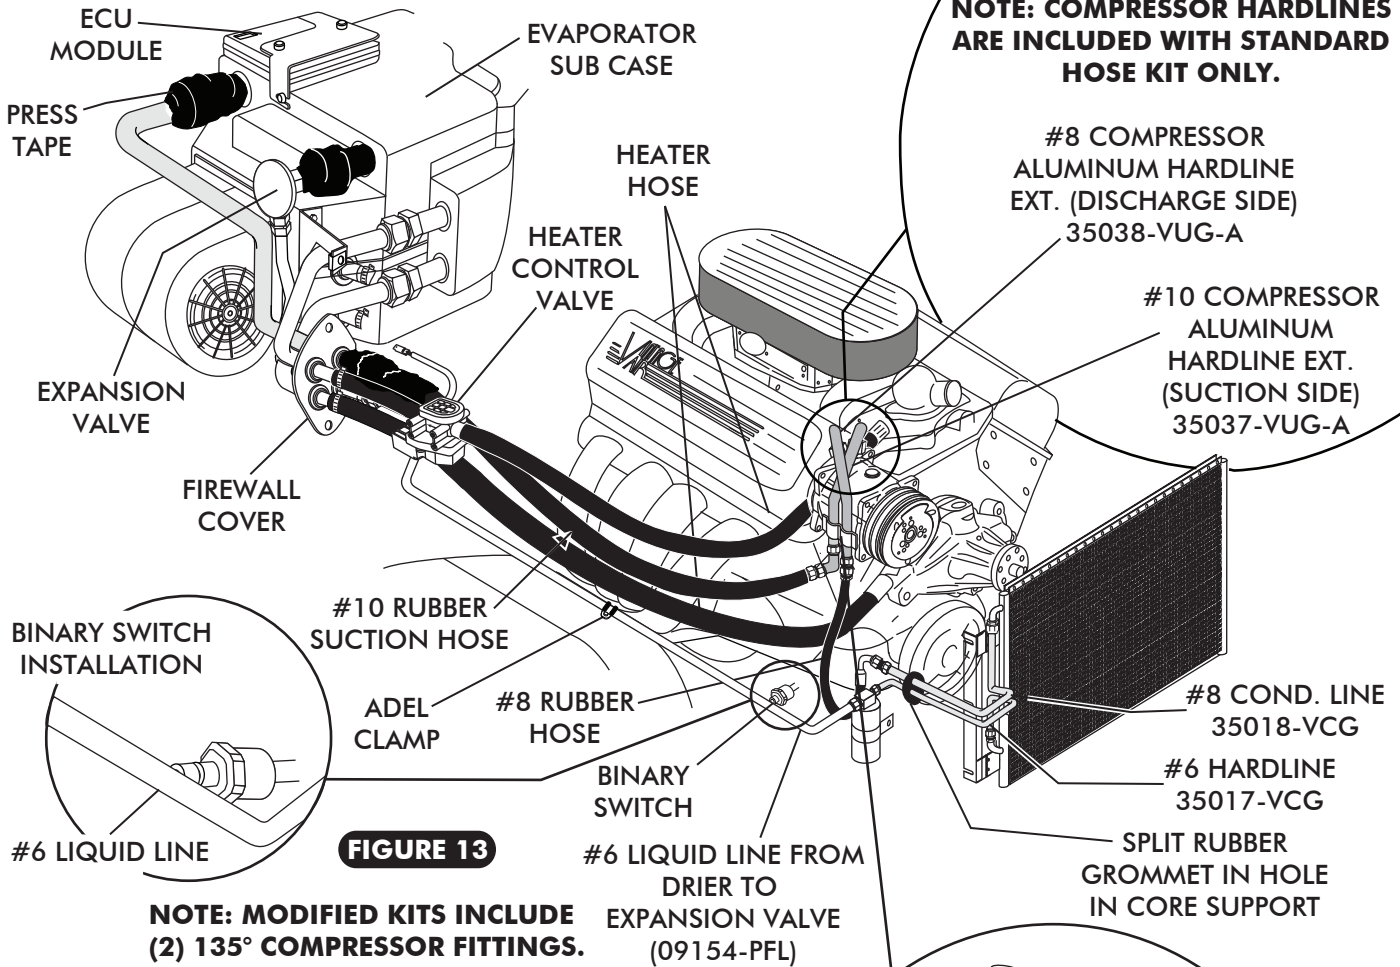

FIGURE 13
- ☐ LOCATE THE TWO COMPRESSOR ALUMINUM HARDLINE EXTENSIONS. SEE FIGURE 13, PAGE 14.
- ☐ LOCATE THE #10 COMPRESSOR ALUMINUM HARDLINE. LUBRICATE (1) #10 O-RING AND INSTALL ON THE FEMALE O-RING END. CONNECT THIS LINE TO THE #10 SUCTION PORT ON THE COMPRESSOR AND TIGHTEN. SEE FIGURE 13, PAGE 14.
- ☐ LOCATE THE #8 RUBBER HOSE. THIS HOSE WILL CONNECT TO THE #8 ALUMINUM COMPRESSOR HARDLINE AND #8 ALUMINUM HARDLINE FROM CONDENSER. LUBRICATE (2) #8 O-RINGS, AND INSTALL ONE ON EACH END OF THE #8 RUBBER HOSE. ROUTE HOSE AS SHOWN IN FIGURE 13, PAGE 14, AND TIGHTEN. **NOTE: THE 90° HOSE END CONNECTS TO THE CONDENSER HARDLINE.**
- ☐ LOCATE THE #10 RUBBER HOSE. THIS HOSE WILL CONNECT TO THE #10 ALUMINUM COMPRESSOR HARDLINE AND #10 ALUMINUM HARDLINE FROM EVAPORATOR. LUBRICATE (2) #10 O-RINGS AND INSTALL ONE ON EACH END OF THE #10 RUBBER HOSE. ROUTE HOSE AS SHOWN IN FIGURE 13, PAGE 14, AND TIGHTEN. **NOTE: THE 90° HOSE END CONNECTS TO THE COMPRESSOR HARDLINE.**
- ☐ INSTALL THE #6 LIQUID LINE TO DRIER WITH LUBRICATED O-RING AND TIGHTEN. SEE FIGURE 13, PAGE 14.
- ☐ INSTALL BINARY SWITCH ON #6 LIQUID LINE. SEE FIGURE 13, PAGE 14.
- ☐ SECURE THE #6 LIQUID LINE TO THE FENDER USING THE SUPPLIED ADEL CLAMP. SEE FIGURE 13, PAGE 14.